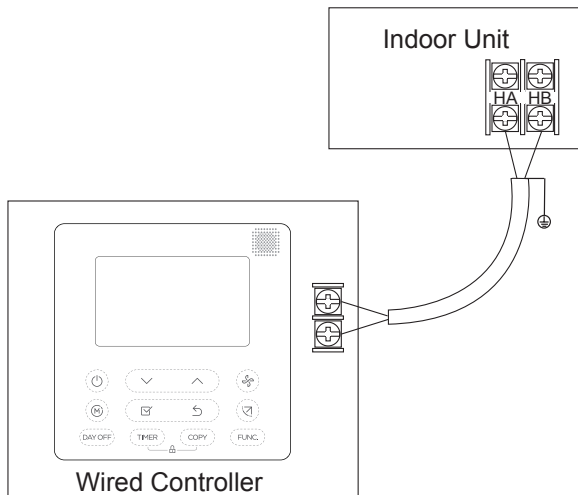

Fig.3-7
- 2 Notch the part for the wiring to pass through with pliers or similar tool. Connect the terminals on the remote controller (HA ,HB), and the terminals of the indoor unit (HA ,HB). (HA and HB do not have polarity.) See Fig. 3.7